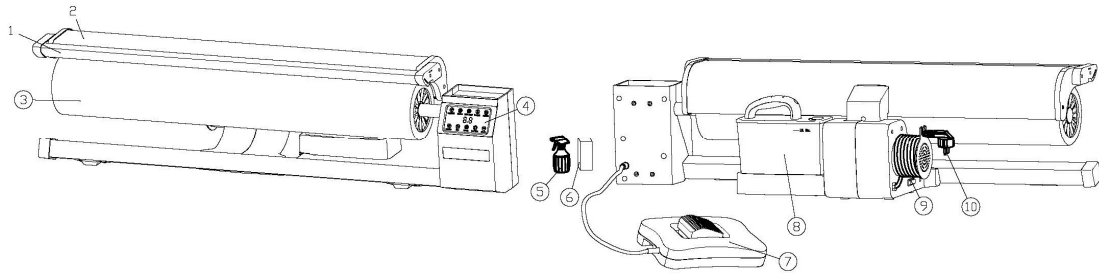
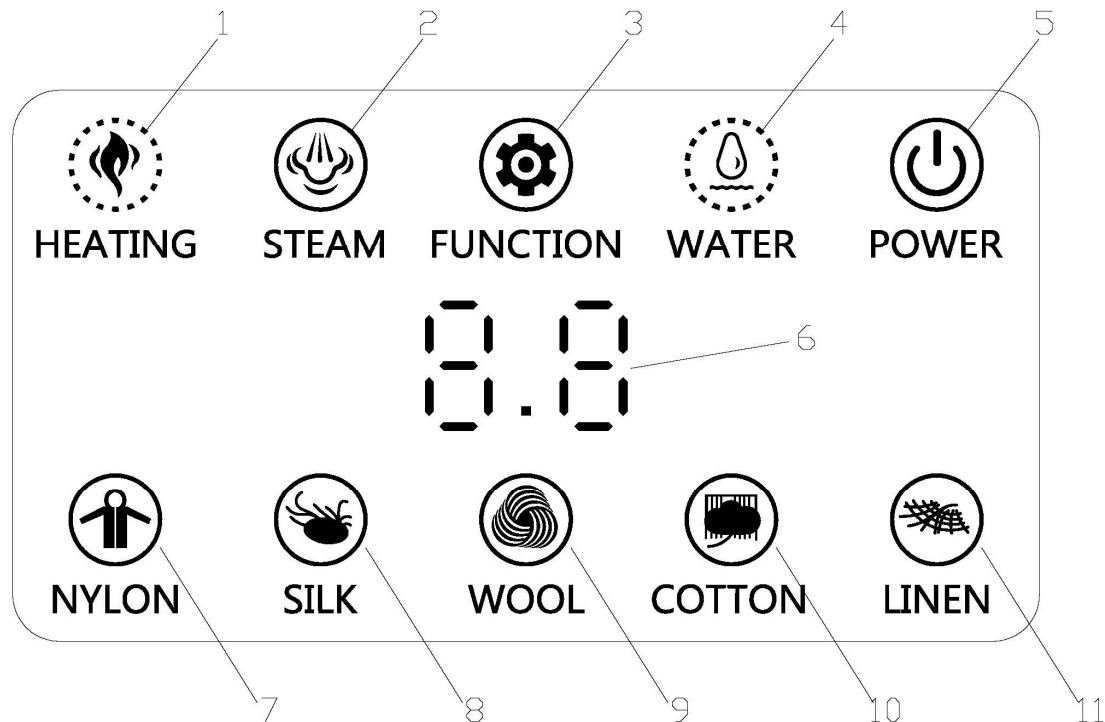
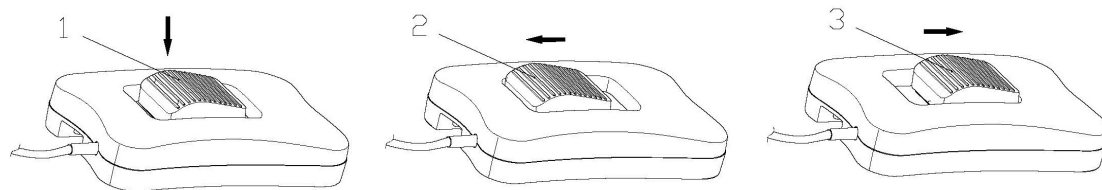

Figure 1
Figure 2
Figure 4
Remove the power cord from the winding frame (Figure 1 No.10), insert the plug into power socket.
Turn the power switch (Figure 1 No.9) to position "I", and at this point, the POWER light (Figure 2 No.5) on the control panel in red. Press the POWER button 2 seconds to start up the product and the pressing plate will be opened and uplifted to the highest position automatically.
The steam ironing is applicable to the menu modes of wool, cotton and linen. Place the fabric on the roller horizontally and select the corresponding menu according to different shell fabrics. The heating indicator light (Figure 2 No.1) is "on" while preheating and "off" after heating, with the whole process taking about 2 minutes. The steam indicator light (Figure 2 No.2) is blue and flickering while heating. The blue indicator light stops flickering and is "on" when the temperature of pressing plate reaches the standard to operate steam ironing. And by this time, press the foot pedal (Figure 4 No.1), the product releases the steam automatically after the pressing plate is pressed. Thus, the ironing operation works.
The no-steam ironing can be achieved in each menu mode of this product. select the corresponding menu according to different shell fabrics. Press the steam selection button (Figure 2 No.2) to cancel the steam function after the red heating indicator light is off. Then press the foot pedal (Figure 4 No.1) and the dry ironing operation works.
In the working status, if there is no operation for 15 minutes, the product will automatically shut down and enter the standby status. The “Power” indicator (Figure 2 No.5) turns to RED.
2.6 Sprayer (Figure 1 No.8)
1. Connect the power plug to power socket and switch the power switch (Figure 1 No.9) on the pedestal to position “I”. At this time, the POWER light (Figure 2 No.5) on control panel is red. Press the POWER button to start up the product and select the menu mode of shell fabric that is used most frequently, such as “cotton” (Figure 2 No.10), product starts to heating.
2. Press the function button (Figure 2 No.3) for 2 seconds to enter the pressing plate closing time setting function after the “beep”.
3. Press the function button (Figure 2 No.3) to reduce the closing time or press the “WOOL” button(Figure 2 No.9) to increase the closing time. You can know the current time from the number indicator(Figure 2 No.6). Every press will reduce/increase 0.1 second.
4. Place a white paper on the roller and press down the foot pedal(Figure 4 No.1) to test the pressure of pressing plate.
5. Regulate the pressure of pressing plate to an appropriate value and press the function button (Figure 2 No.3) in 2 seconds to save the setting.
2. Press the foot pedal(Figure 4 No.1) in order to keeping the pressing plate pressed.
3. Press the POWER button (Figure 2 No.5) 2 seconds to shut down the product. Turn the power switch (Figure 1 No.9) to position “0”.
2. After the pressing plate is cooled, press the foot pedal(Figure 4 No.1) to keeping the pressing plate (Figure 1 No.2) pressed.